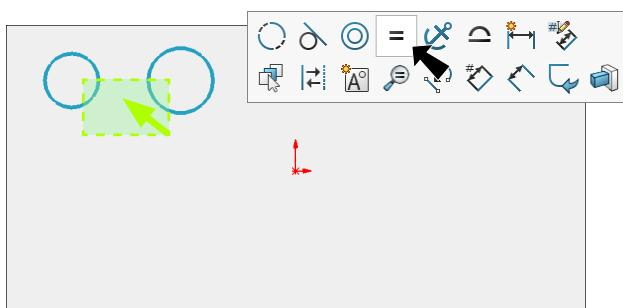

Fig. 24
Step 6. **Drag selection to left to select both circles** and click **Make Equal**  on the context toolbar, Fig. 24.